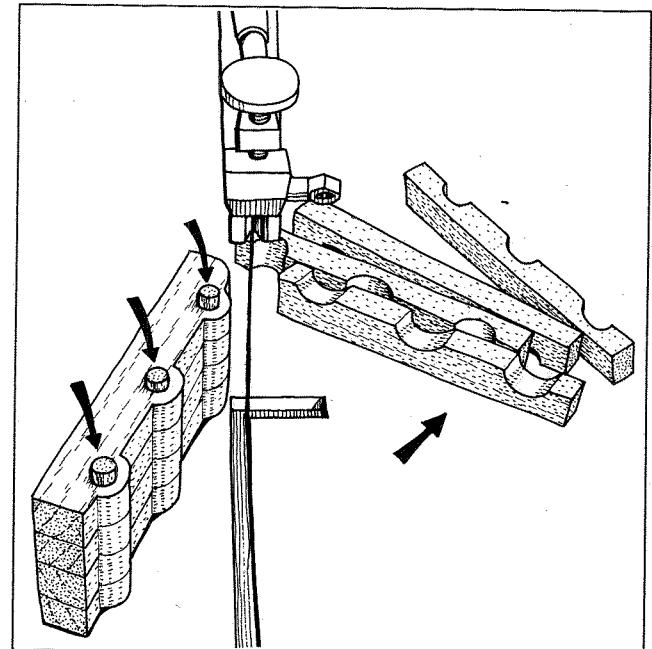

FIGURE 6-3
- 4** Push lengths of $\frac{1}{4}$ " dowel through the holes to hold the four pieces of wood together, and fret out the total three-curve shape on the scroll saw (Fig 6-3).